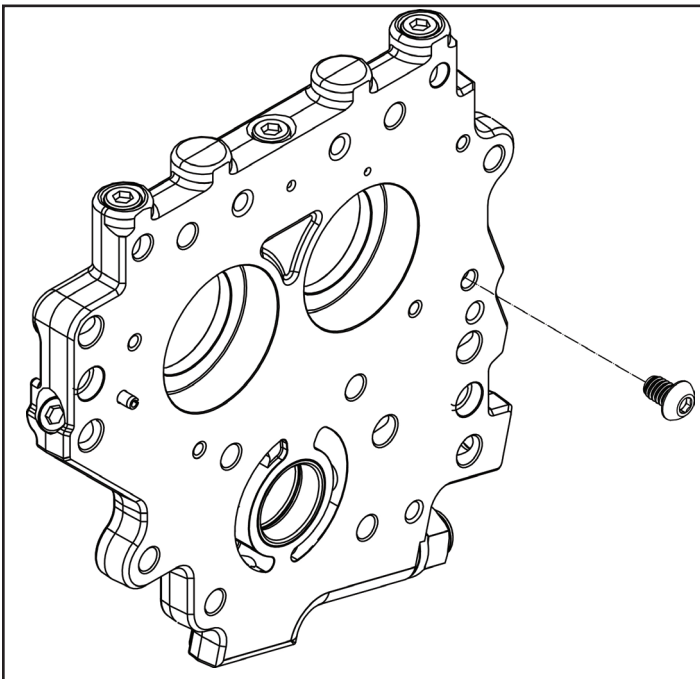

Figure 1
- Some early 1999 model engines do not have a chain oiler boss. See **Pictures 3 and 4**. If Your engine does not have this boss, screw #50-0413-S must be installed to block the oil hole in the back side of the cam plate. Install with red thread locker and tighten to 70 in-lb. **See Figure 1**.